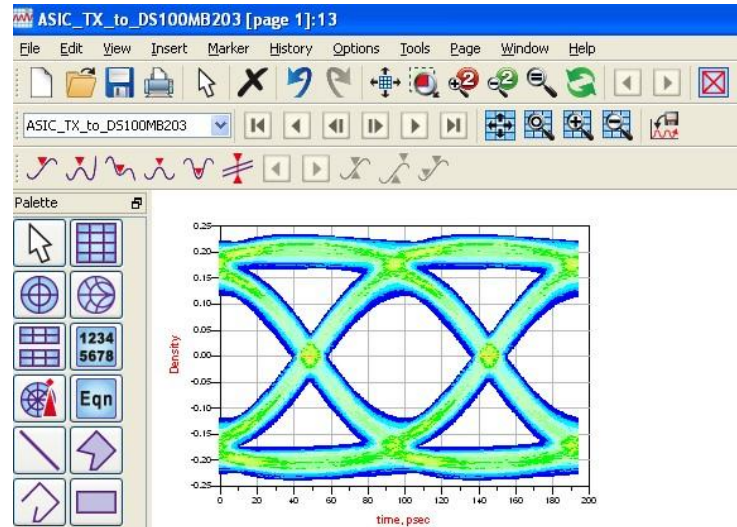

Figure 4: Eye plot for ASIC TX to DS100MB203 RX link
8. The eye plot will appear in the plot window, as shown in Figure 4. Note that this is a plot of the eye as it appears after the DS100MB203’s equalization, but before the TX de-emphasis and VOD is applied.